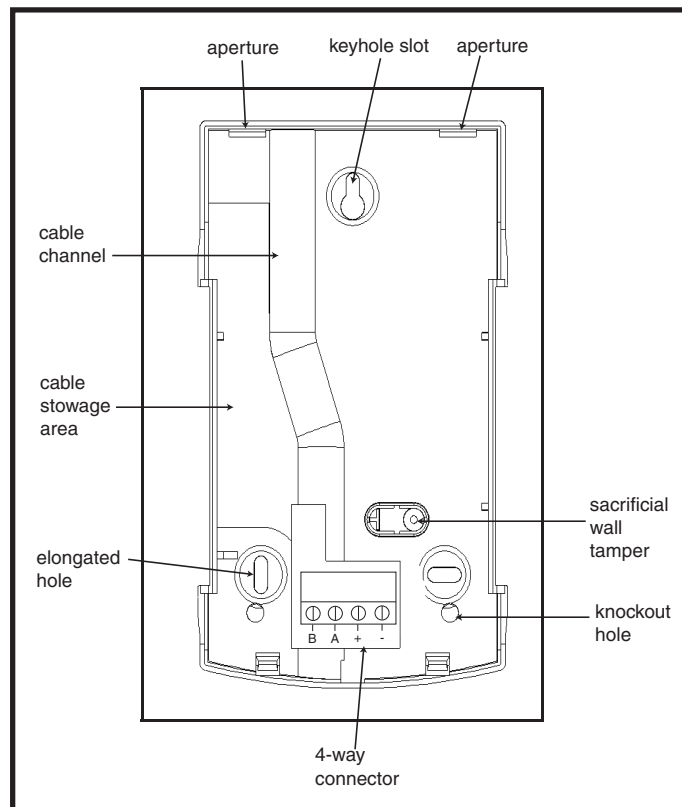

Figure 4-2. Galaxy Mk7 Keypad/KeyProx Backplate Installation
- If an off the wall tamper is required, using a No. 6 Pan-head screw, secure the sacrificial wall tamper, indicated in Figure 4-2, to the wall. Make sure that the tamper knockout is still connected to the backplate moulding.